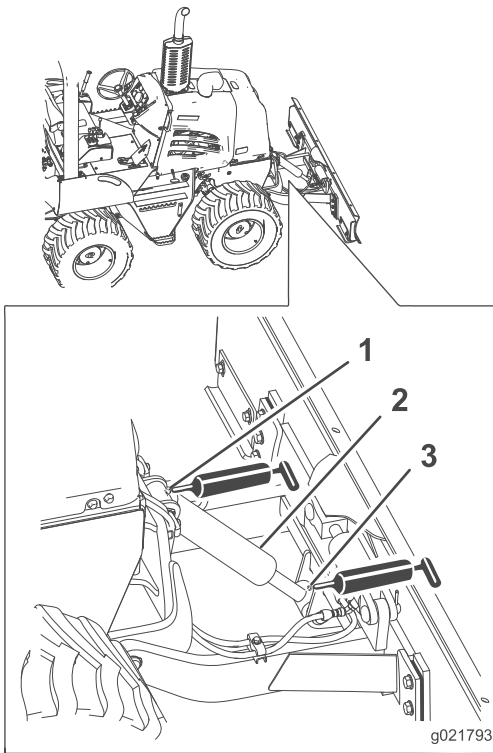

Figure 34
2. Connect the grease gun to the upper and lower grease fittings for the lift cylinder, and apply 3 pumps of grease to each fitting (Figure 34).